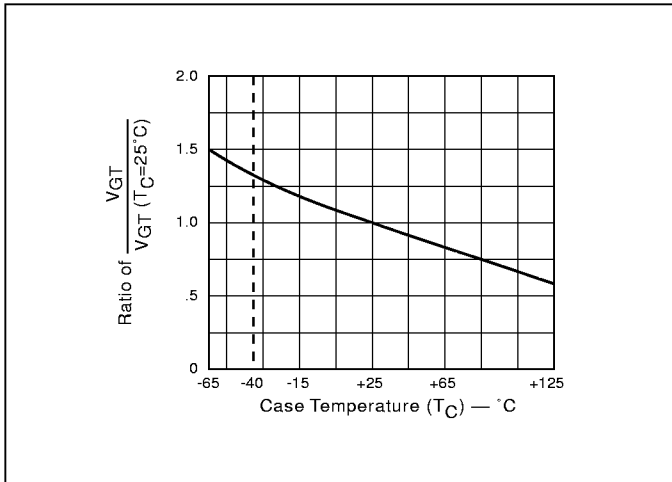

Figure 4.7 Normalized DC Gate Trigger Voltage for all Quadrants vs Case Temperature
- (6) See Figure 4.7 for V_{GT} vs T_C .